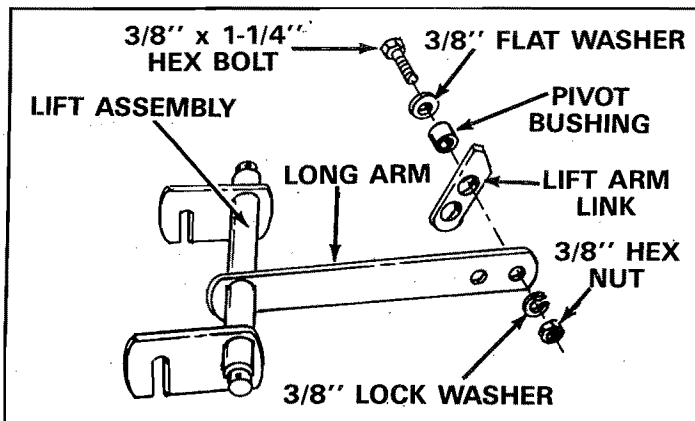

FIGURE 12
- Pre-assemble lift arm link to inside of long arm on lift assembly. As shown in figure 12.
- Assemble one 3/8" x 1-1/4" hex bolt through 3/8" flat washer, through pivot bushing, through large hole in lift arm link near angle end and through hole in long arm nearest the end. Secure with one 3/8" lock washer and one 3/8" hex nut. See figure 12. **NOTE: Lift arm link must pivot freely.**
Lift arm link must be positioned as shown in figures 12 and 13.